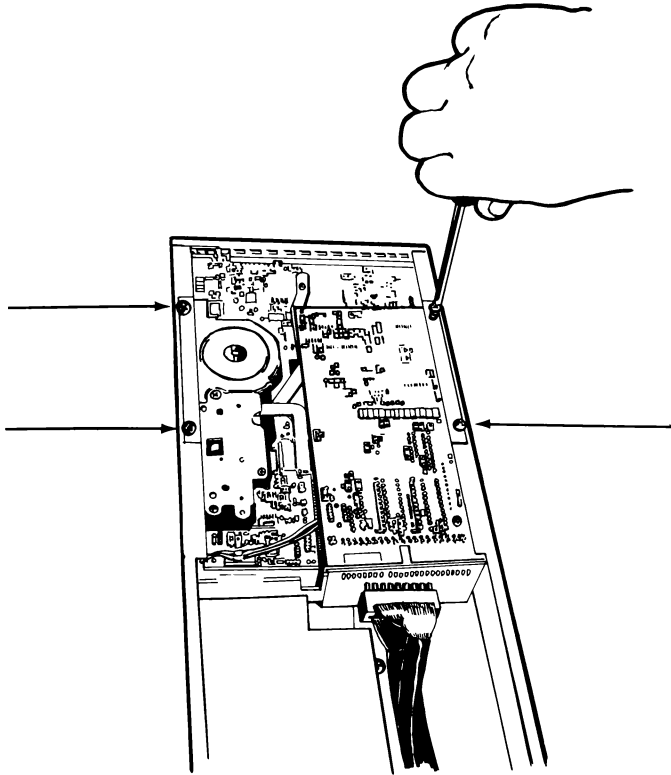

Figure 9
5. *Remove the four screws that hold the tape drive in place (Figure 9).*